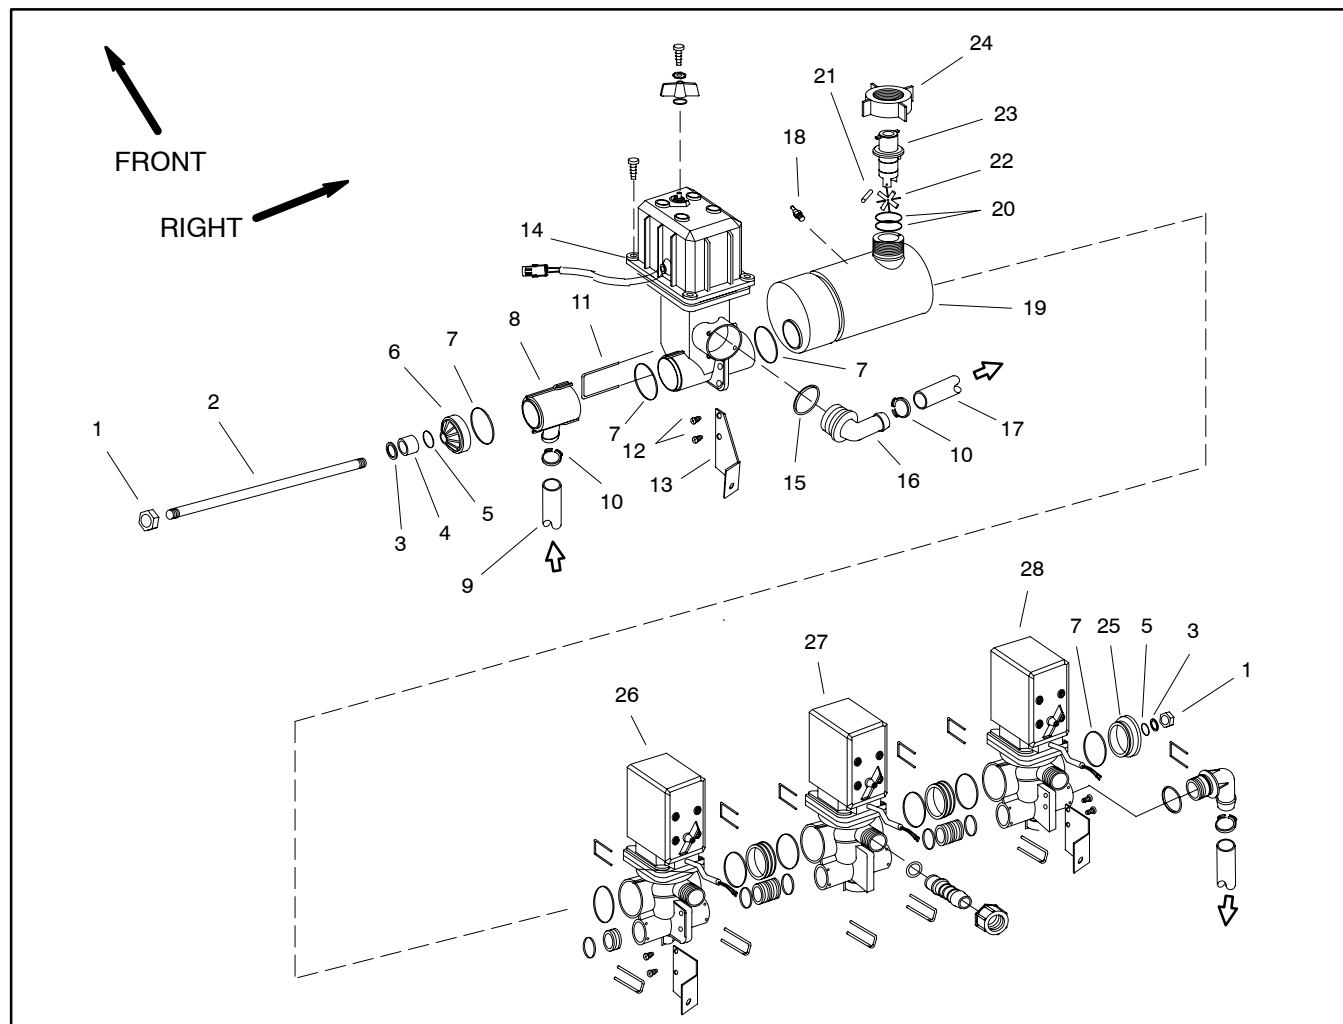

Figure 38
Removal and Inspection (Fig. 38)
6. If necessary, remove flowmeter housing using Figures 38 and 40 as guides (also see Spray Control (Multi Pro 1250) in this section). Discard all removed o-rings and gaskets.
Assembly (Fig. 38)
1. Reassemble flowmeter using Figures 38 and 40 as guides. Replace all removed o-rings and gaskets.